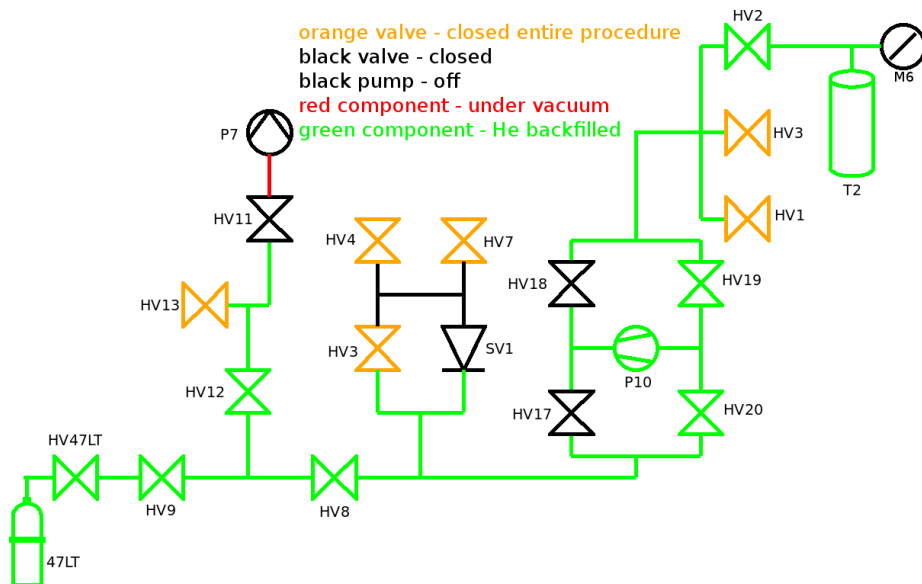

Figure 4: Open the pressurized cylinder and allow the gas to flow into T2.
4. Figure 4: slowly open HV47LT, the valve(s) on top of the pressurized cylinder, and watch the pressure M6 rise until it equilibrates with the pressure on the cylinder. Then open HV47LT all the way.